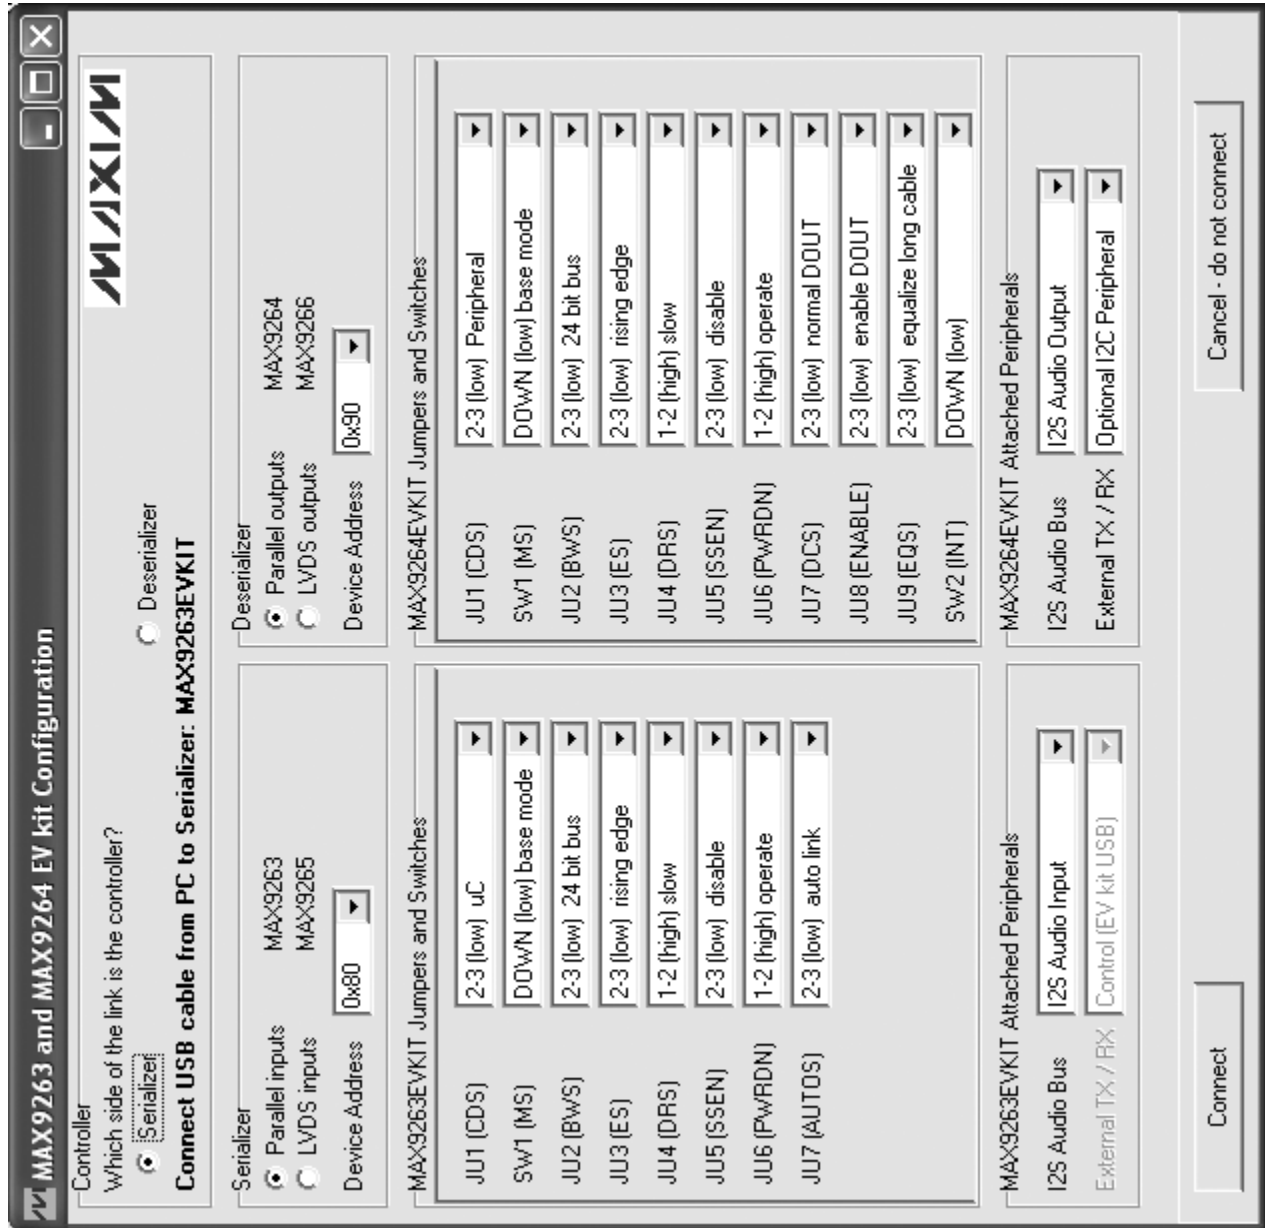

Figure 8. MAX9263/MAX9264 EV Kit Software Configuration Window
- 15.2) Start the MAX9263 EV kit software by opening its icon in the **Start | Programs** menu. The EV kit software configuration window appears, as shown in Figure 8.
The **Change Configuration** button brings up the software **Configuration** window (Figure 8), allowing the software GUI to select which side of the link the USB cable should be plugged into. Controlling from the MAX9264 side requires changing some jumper settings, as described in this window. If the MAX9263 and MAX9264 device addresses have been previously changed from their factory power-on-reset (POR) values, the new addresses must be specified in the software **Configuration** window to allow register access.